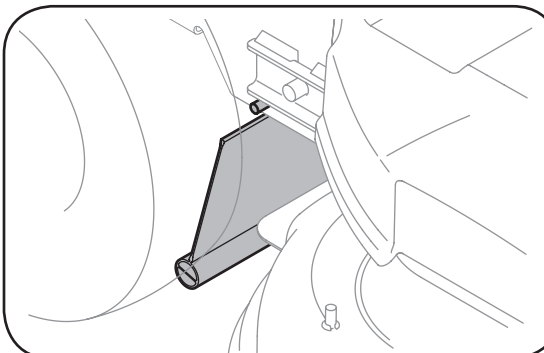

Figure 5-11: The trailing shield
1. If screws are located at each side of the trailing shield, remove the two screws. Bend (bow) the trailing shield inward on each side to release tabs from the holes in the mower frame, Figure 5-11.